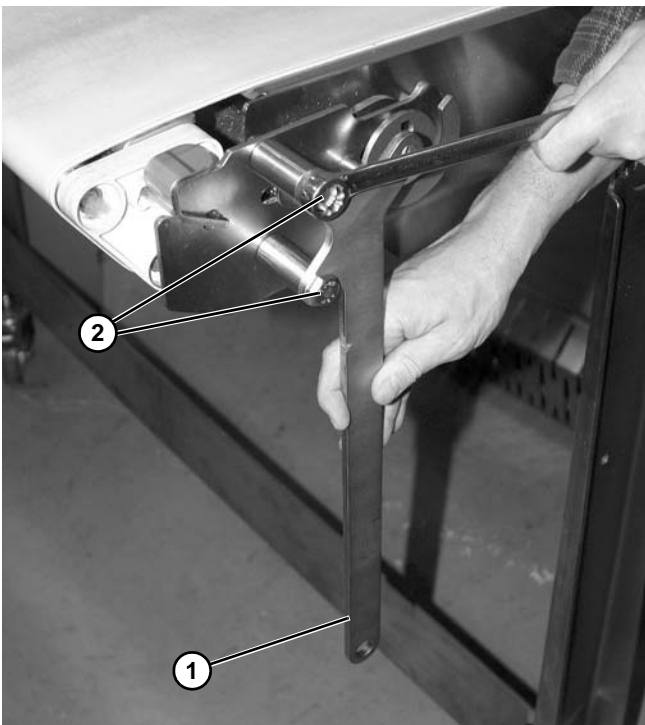

Figure 57
3. Position handle (**Figure 57, item 1**) in one of the four positions available. Attach handle with two screws (**Figure 57, item 2**).
4. Tighten two screws (**Figure 57, item 2**).